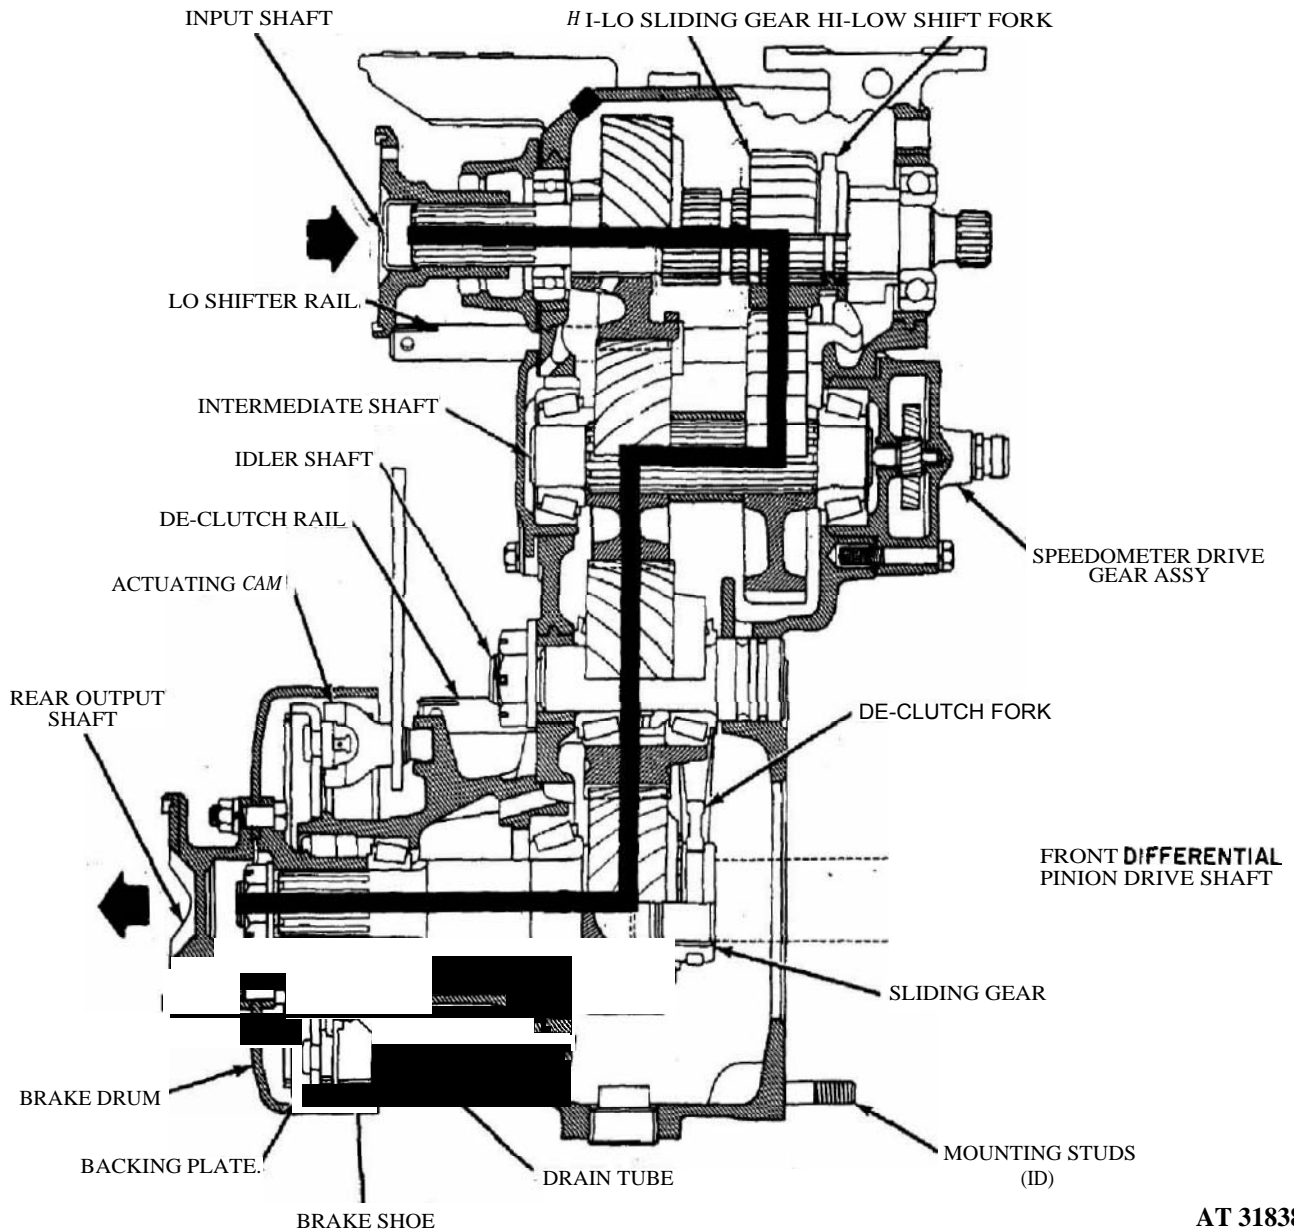

Figure 3-40. Low range power flow.
c. In low range, the **hi-lo** sliding gear is moved forward by the shifting fork, to engage with and drive the low range idler gear which is splined to its shaft. Power is then transferred through the constant mesh gears to the axle drive shaft (fig 3-40).